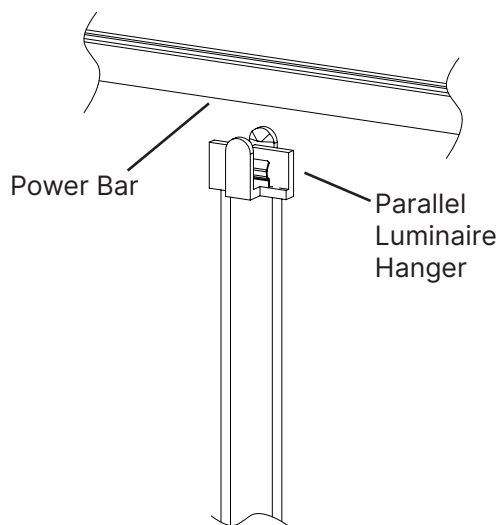

Fig. 1
2. Press up firmly on the bottom of the **Parallel Luminaire Hanger**, while pressing down on the top of the **Power Bar**, until the Parallel Luminaire Hanger clicks into place (Fig. 1).